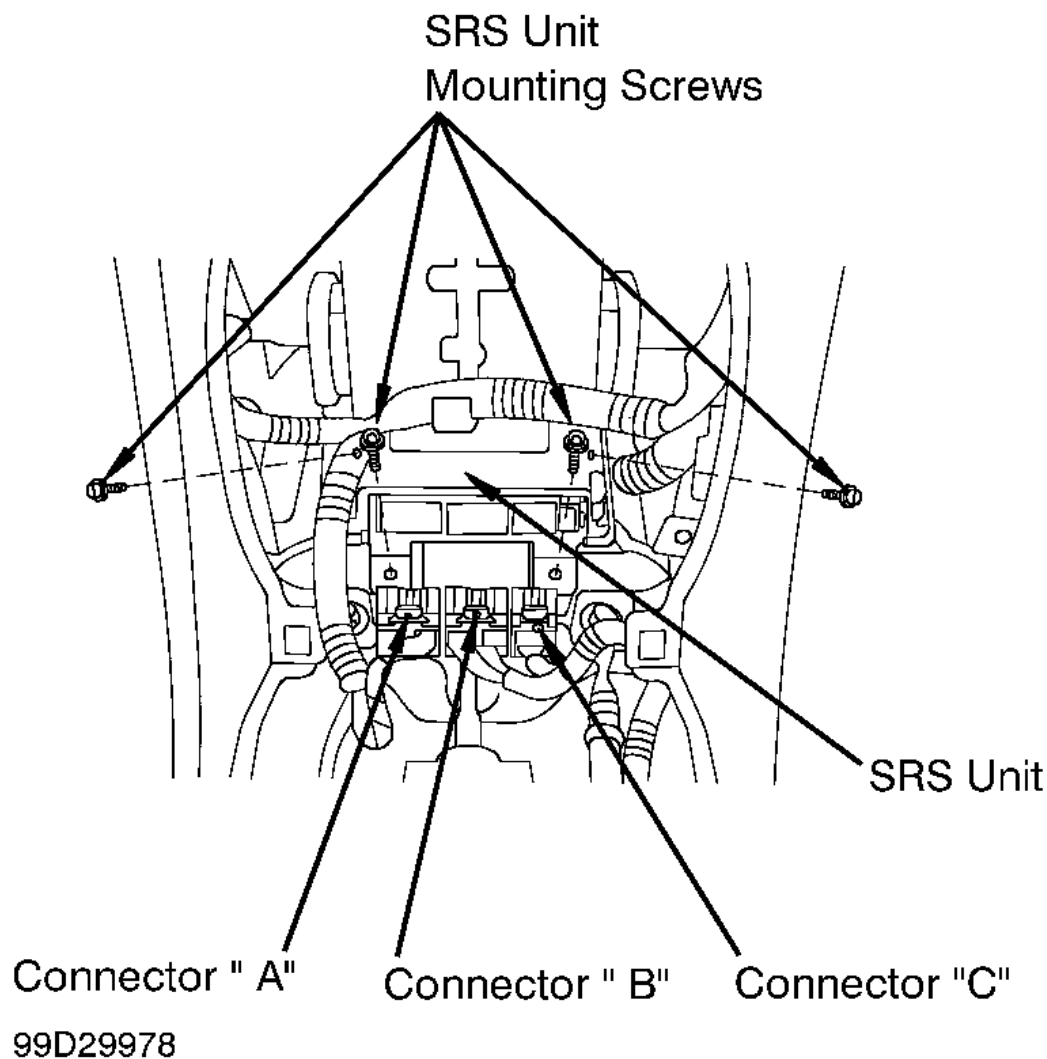

Fig. 28: Identifying SRS Unit
2. Remove center console, front panel and cup holder. See **CENTER CONSOLE** . Remove left and right center lower cover and heater ducts. Disconnect SRS unit connectors, remove mounting screws and remove SRS unit. See **Fig. 28** .